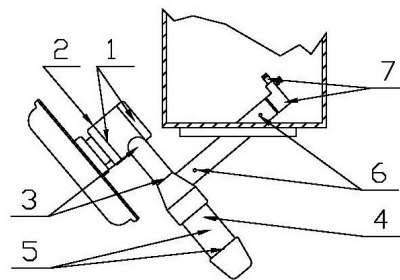

Fig.5-5 Lubiracation of unloader
There are 7 areas on the discharging mechanism which shall be lubricated. Rolling bearing (1 and 3 in Fig.5-5) shall be greased every 5000 operating hours with 2/3 cavity filled in. Cone gear (2) shall be greased every 5000 hours. Cycloid reduction gear (4 in Fig. 5-5) shall be greased every 5000 hours. Front and rear bearing of motor (5 in Fig. 21) shall be lubricated with calcium-sodium-matrix grease every 5000 hours with 2/3 cavity filled in. Oil feeding hole (6 in Fig.5-5) of front and rear copper bushing shall be greased every 500
hours, with 2~3 movements of oil gun. Front and rear joint bearing or lug (7 in Fig. 5-5) of hydraulic cylinder shall be greased every 500 hours.